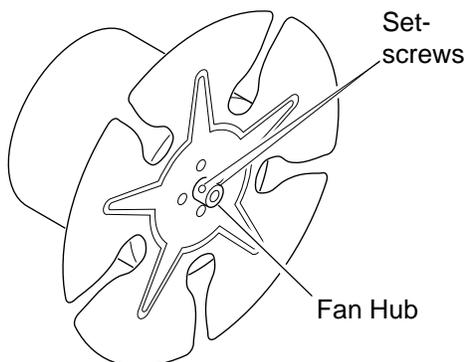

Figure 8 - Removing or Attaching Fan from Motor Shaft
6. Use 3.17 mm (1/8") Allen wrench to loosen set-screws which hold fan to motor shaft (see Figure 8).
IMPORTANT: When placing fan onto motor shaft, make sure fan hub is positioned away from motor body (see Figure 8). Make sure setscrews are touching back of flat surfaces on motor shaft. Tighten set-screws firmly (4.5-5.7 Nm [40-50 inch-pounds]).